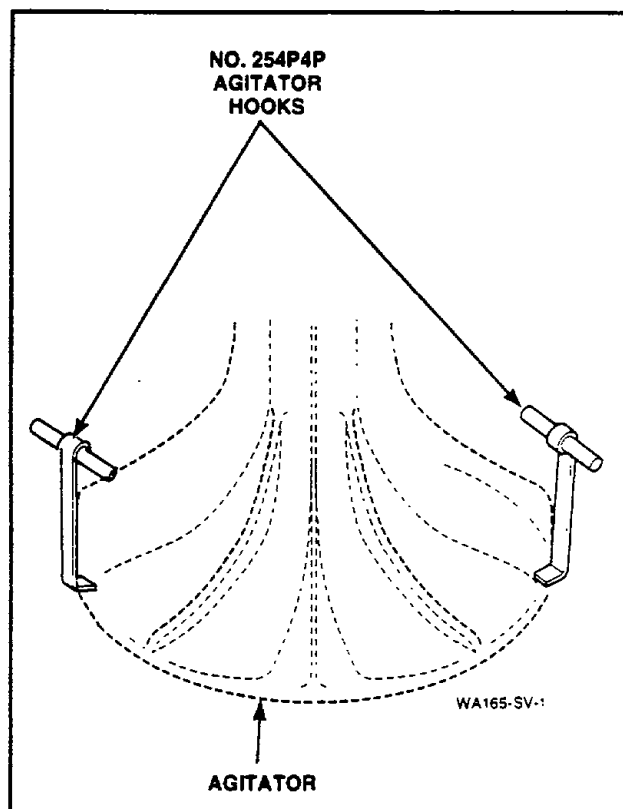

Figure 15
- To remove the agitator by hand, place two agitator hooks, No. 254P4P, under the bottom edge of the agitator, *Figure 15*.